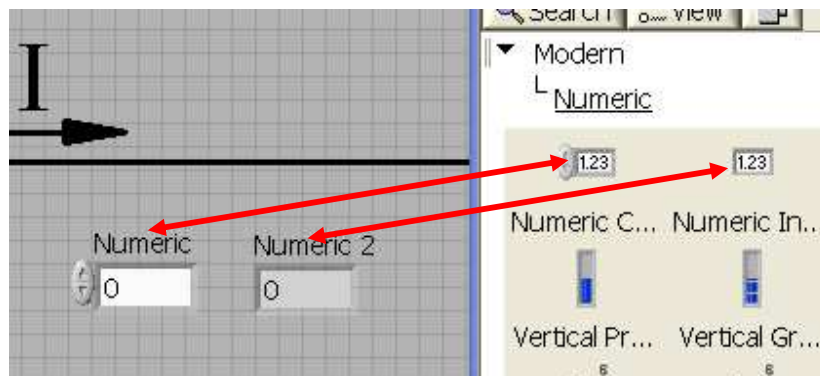

Fig. 4. Controls and Indicators
After selecting the *Numeric* icon, a set of tools will appear, which can be divided into two main groups (Figure 4):
- **Controls** - these are input elements ("controls"), which allow to set variable values (data input). The controls have the ability to edit and usually they are equipped with elements allowing to change the value of entered data (arrows next to the "Numeric" field in Fig. 4).
- **Indicators** - these are output elements ("displays") that allow displaying results of calculations, charts, etc. Data displayed in these elements are not editable - the user can't change their value ("Numeric2" field in Fig. 4).